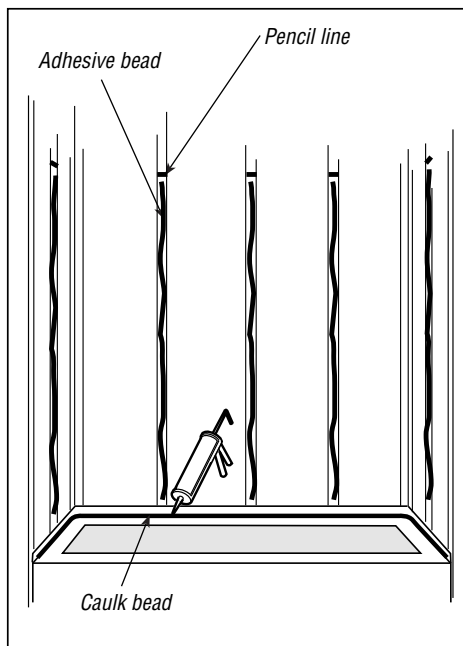

Figure 2
- 3** When satisfied with fit, mark the top of the panels on each stud. Remove the panels. Apply a bead of adhesive down each stud that will come in contact with the back panel being sure to stay below the line you marked. You do not need to apply adhesive to the corner studs. Lay a bead of latex/acrylic caulk along tub ledge (*Figure 2*). Reposition back panel and press firmly in alcove against studs.